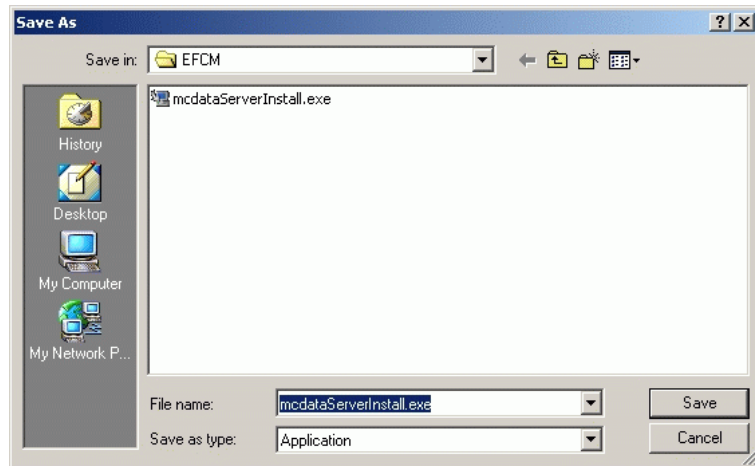

Figure 4-85 Save As Dialog Box
- i. Select the *Save this file to disk* radio button and click *OK*. The *Save As* dialog box appears (Figure 4-85).